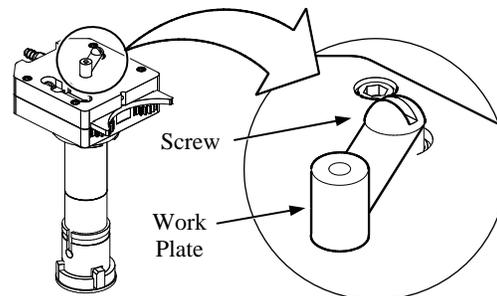

Figure 30 Inspecting the Work Plate and Screws
12. Verify that the work plate screw is tight and free from excessive oxidation. See Figure 30. Clean the work plate with a fine-grit abrasive pad if necessary.